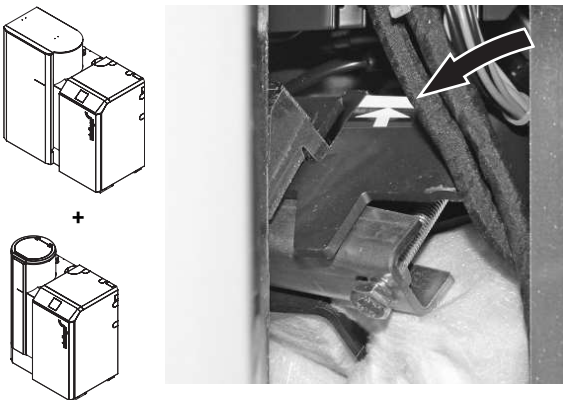
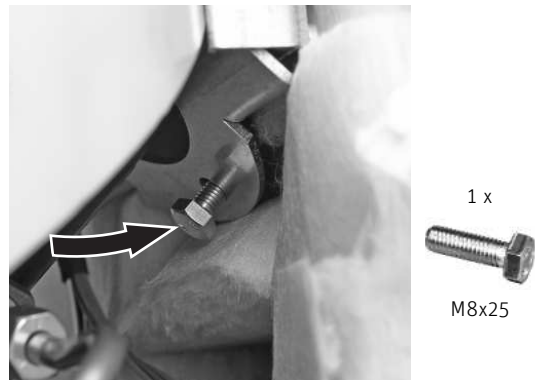

Fig. 43 Tighten the fastening at the top as firmly as possible (as marked)
Fig. 44 Secure the integral fuel hopper at the bottom with M8x25
- ▶ Tighten the M8 bolt at the top as firmly as possible (as marked) – Fig. 43.
- ▶ Secure the integral fuel hopper at the bottom next to the auger tube with an M8x25 hexagon bolt (provided in plastic bag attached to integral fuel hopper) – Fig. 44. Ensure mount is flush with auger tube before fully tightening. (Do not tighten if above action as described in Fig. 43 has been fully undertaken).